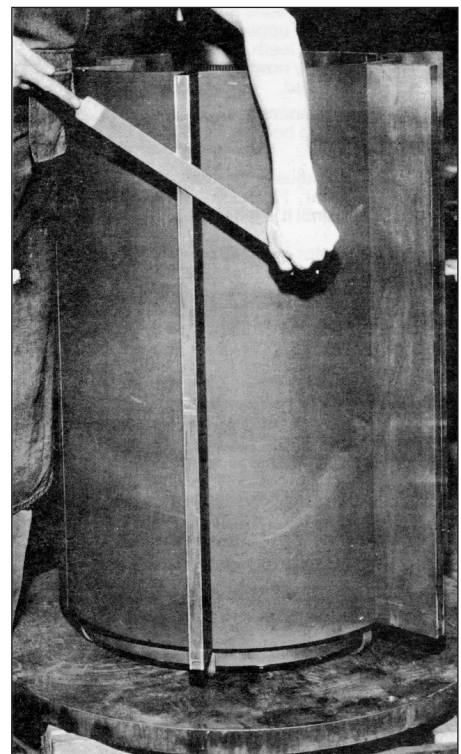

Figure 28
- Support the rotor assembly in vice or vertically on wood blocks of sufficient height so that the blade ends can be dressed down the full length, Figure 28.